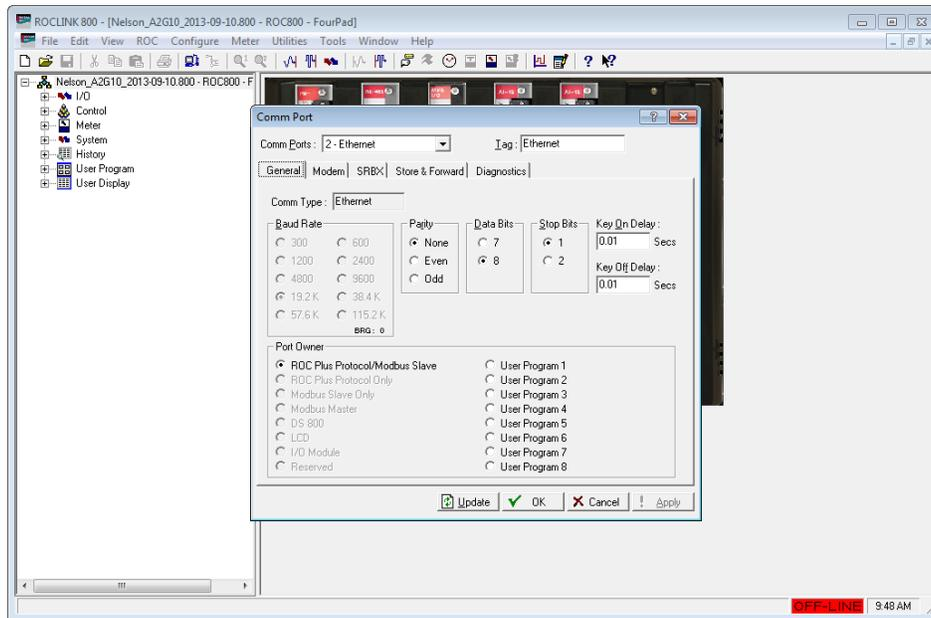

Figure 6.
1. Referring to Figure 6, go to the menu bar and click *ROC – Comm Ports*.